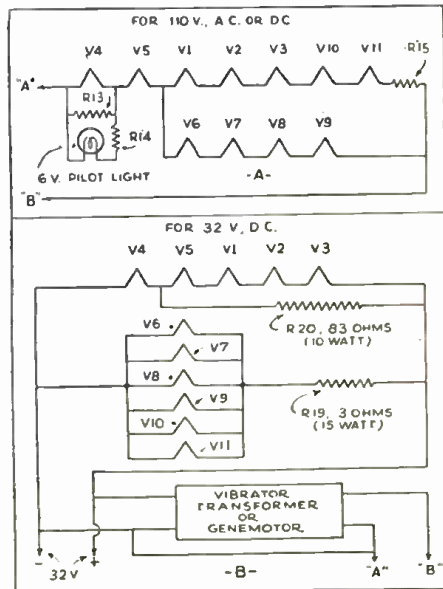

Fig. 2
V. tap to the grid connection of the tube, as shown in Fig. 2.
required (as stated in previous issues of RADIO-CRAFT). Tubes having a filament voltage of 2.0, or less, bear the designation "1"; tubes in the 2.5 V. group bear the designation "2"; 3.0 to 3.9 V. bear the designation "3"; 4.0 to 4.9 V. bear the designation "4," and so on. The special arrangement made with reference to the 2.5 V. group was adopted only for convenience in retaining the figure 2 for this group. A 6.3 V. tube bears the designation 6, while a 12.6 V. tube is given the designation 12.